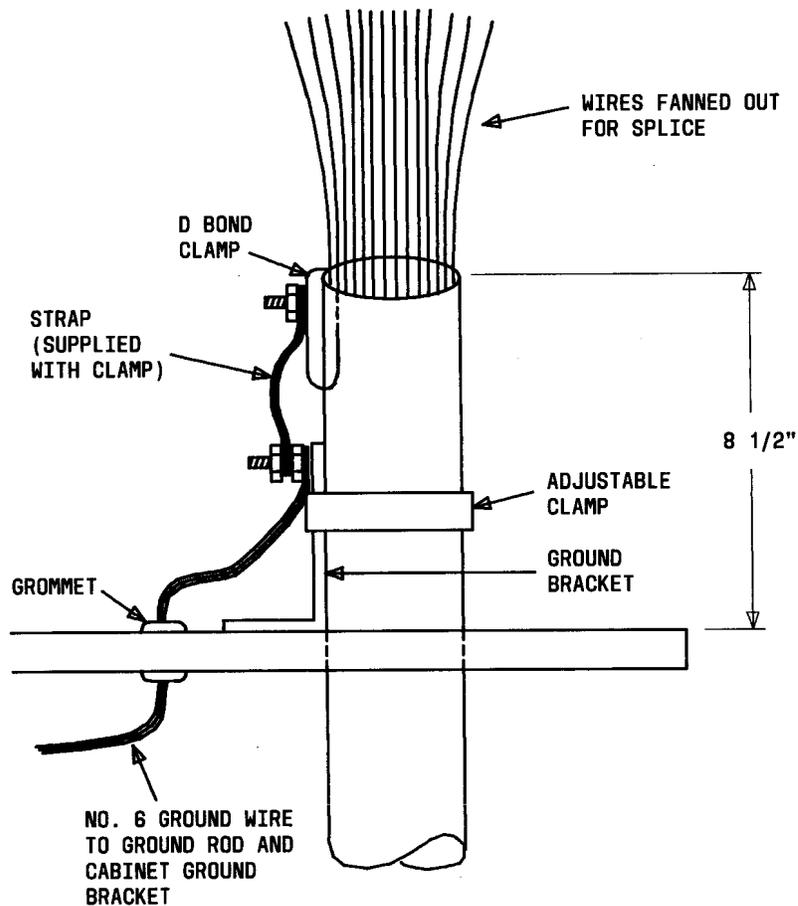

Fig. 21—Stub Cable Secured to Cabinet
7.09 Fasten the cable to the cabinet ground bracket as shown in Fig. 21. Seal the cable entrance to the RT cabinet with sealing tape.
7.10 Attach a No. 6 ground wire as shown in Fig. 21. Note that the ground wire is routed through a grommet in the bottom of the cabinet.